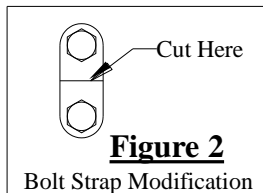

Figure 2
①	Qty. (8)	Hex Bolt – 9/16-18 x 2.00 GR5	⑤	Qty. (2)	Spacer – 3/8 x 1-1/2 x 3
②	Qty. (4)	Spacer – 1/4 x 1-1/2 x 2	⑥	Qty. (1)	Reinforcement Bracket
③	Qty. (8)	Flanged Locknut – 9/16-18	⑦	Qty. (1)	Reinforcement Bracket
④	Qty. (2)	Flat Washer (Hardened) – 9/16"
3. Cut bolt strap in half as shown in figure 2. Loosely reinstall bumper fasteners and reinforcement bracket inside frame.